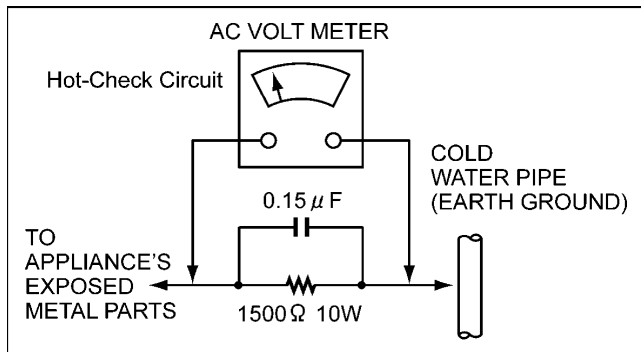

Figure1
LEAKAGE CURRENT HOT CHECK (See Figure 1)
2. Connect a $1.5k\Omega$, 10W resistor, in parallel with a $0.15\ \mu\text{F}$ capacitor, between each exposed metallic part on the set and a good earth ground such as a water pipe, as shown in Figure1.